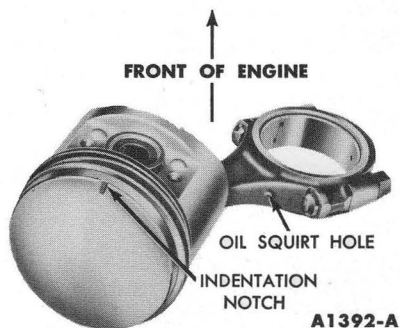

FIG. 64—Piston and Connecting Rod Assembly
1. Apply a light coat of engine oil to all parts. **Assemble the piston to the connecting rod with the oil squirt hole in the connecting rod and the indentation in the piston positioned as shown in Fig. 64.**